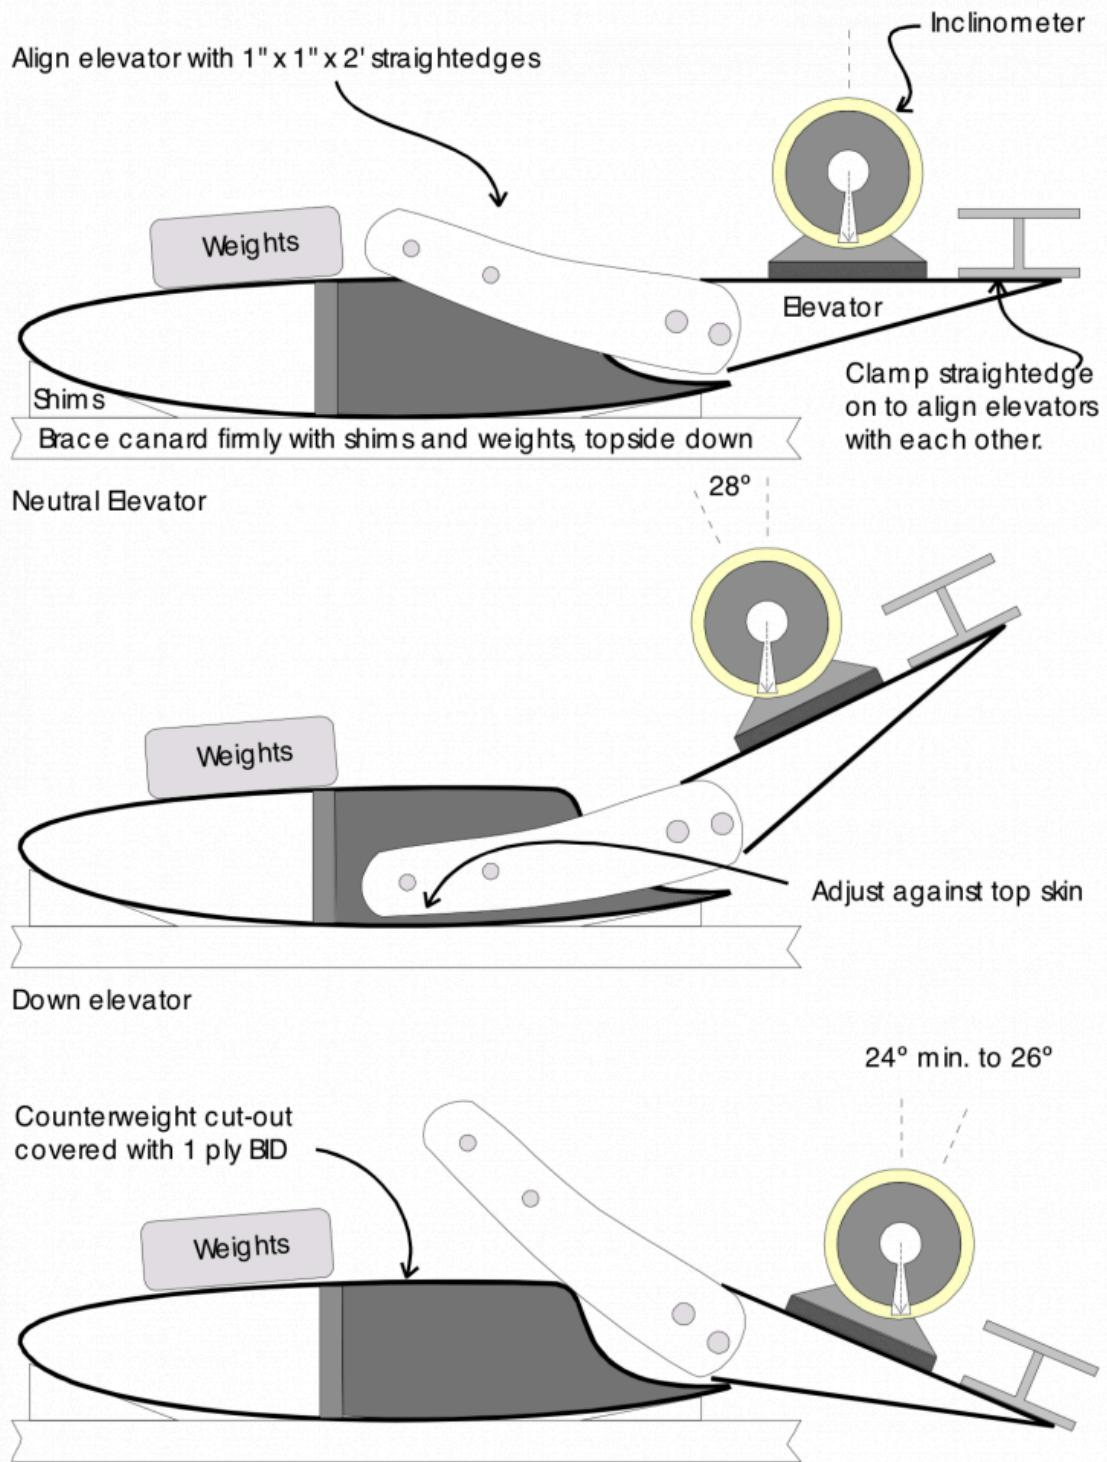

Figure 3-27. *Elevator Travel Measurement*
- ___ Remove the lower skin and foam, leaving the inner top skin intact. See Figure 3-27.
See Figure 3-27.